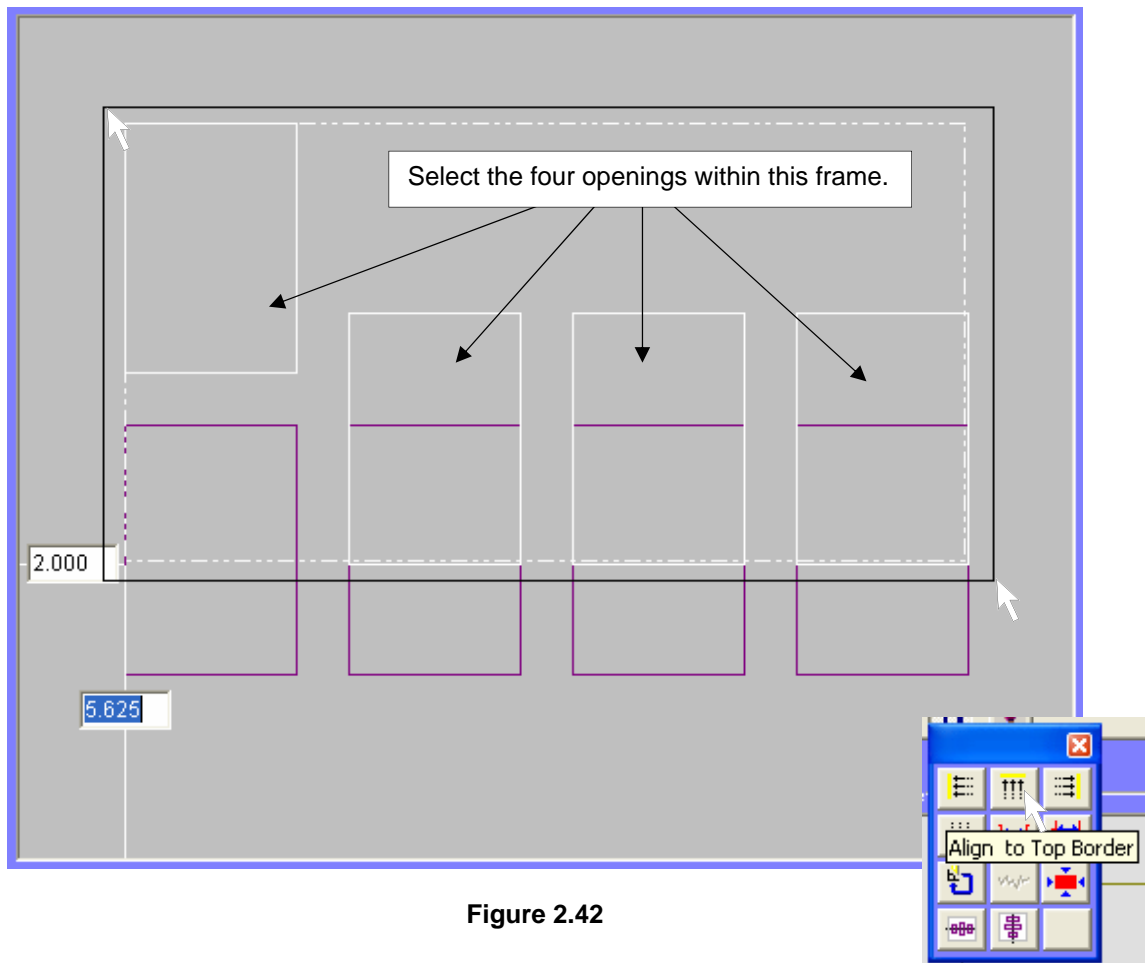

Figure 2.42
- Select *one* of the openings, and enter a 2” top border. Then select all four of the new openings again (Figure 2.42, next page), and click the “Align to Top Border” tool.